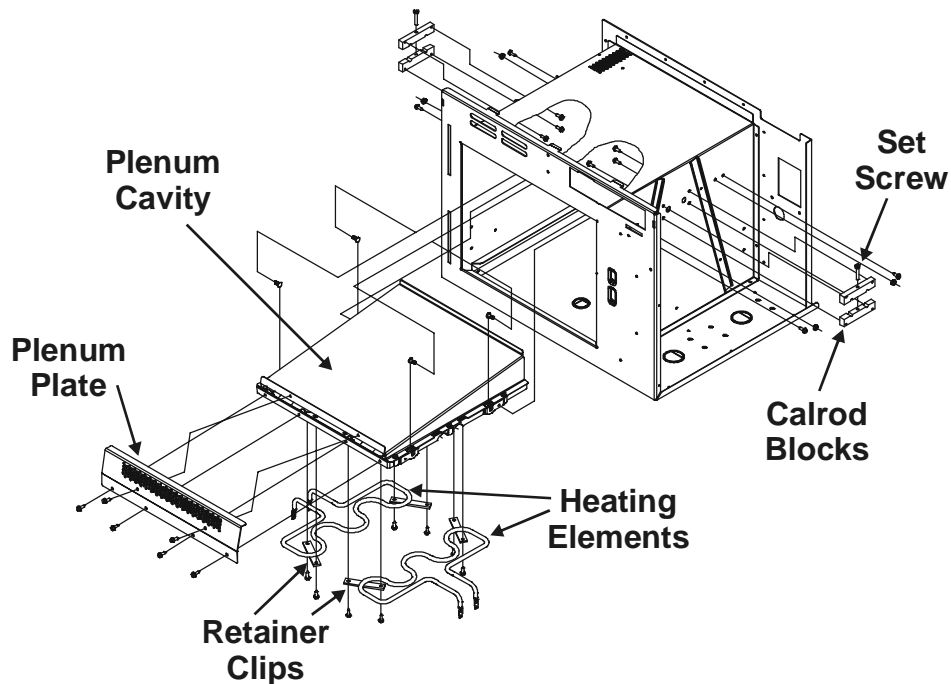

Figure 2
1. See "Component Location" Figure 2, for location.